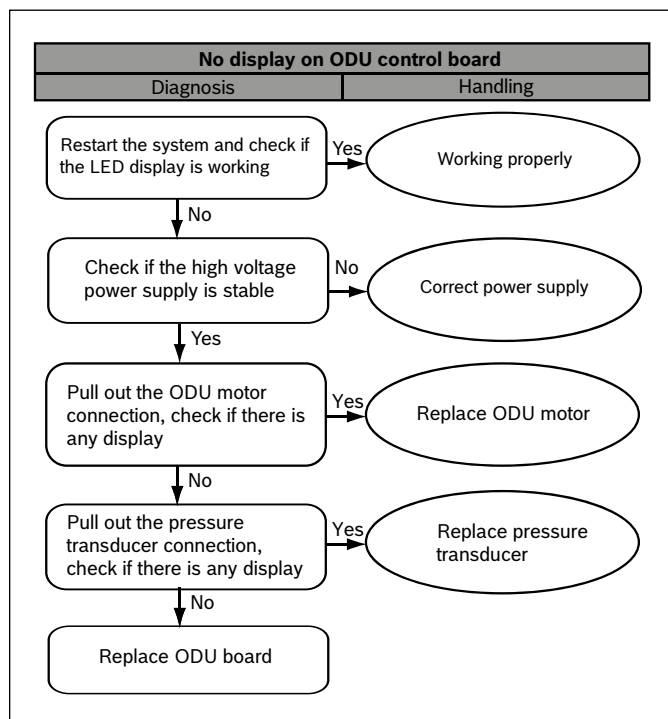

Figure 54
5. Check all electrical wiring and connections. Correct as needed, referring to the wiring diagram. (Refer to Figure 54)